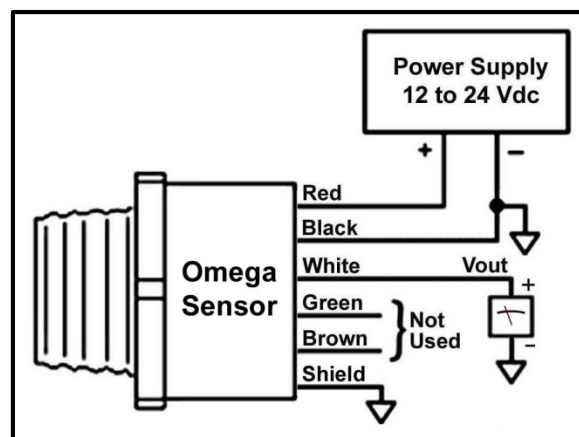
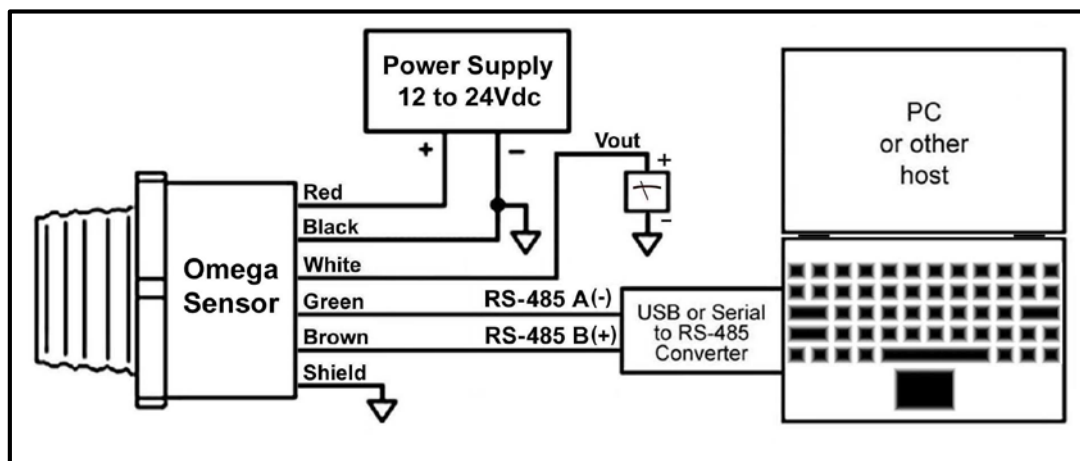

Figure 2
Figure 3
- Connect the sensor's leads as shown in Figure 2. Sensors are programmed for factory default setting. Applications may need setting adjustments which will require connection to the RS485 port (green and brown wires) and the Omega Software (see Figure 3). Once configured, the RS485 wires can be removed.
- Connect the sensor's power leads as shown in Figure 3. If wiring the sensor's Vout or Iout lead, connect it as well.
- Wire the sensor's RS485 green and brown wires as shown in Figure 3.
LVU30A Series Sensors are powered from 12 to 24 V DC sources, either batteries or power supplies, that are capable of supplying currents of approximately 30 ma (Vout models) and up to 50mA (Iout models). The red and black wires of a sensor must be connected to the DC power, as shown in Figures 2, 3, and 6 in Section 2.
Communicating with LVU30A Series Sensors is done through the RS485 serial communications port. The advantages of an RS485 based system include the ability to have long cable lengths and up to 32 sensors on one pair of wires (multi-drop). This method allows for access to all sensors from any convenient location. When communicating with a PC, a communications converter will be required to convert the signals from the PC’s USB or RS232 port to the sensor’s RS485 port. Wire the LVU30A Series Sensor to the RS485 Communication Converter as shown in Figure 3.